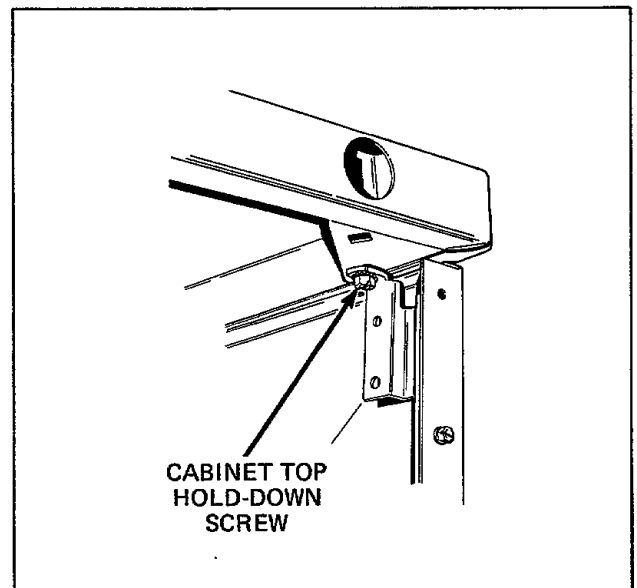

Figure 9
- d. Remove two cabinet top hold-down screws, *Figure 9*.